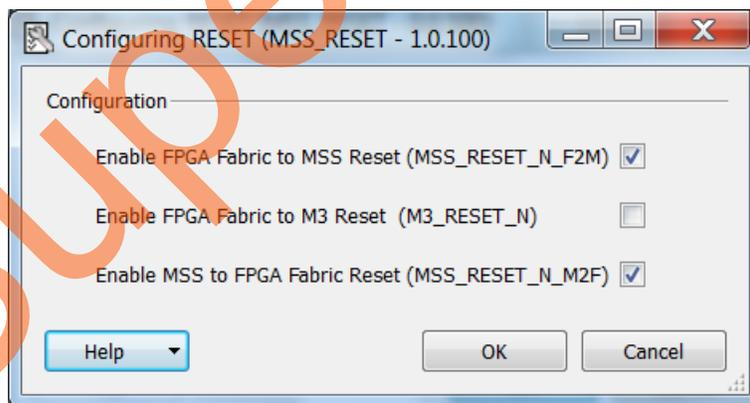

Figure 13. MSS RESET Configurator
5. Double-click **Reset Controller** and select **Enable MSS to Fabric Reset** and **Enable Fabric to MSS Reset**, as shown in Figure 13. This enables the MSS to generate the Reset signal for all the fabric blocks. The MSS reset comes through a system reset pin on the Fabric I/O.